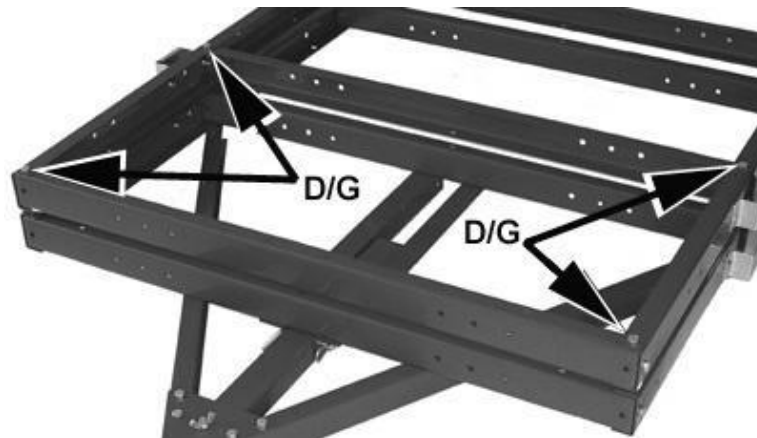

Figure 3-6
9. Install four M10 x 20 bolts (D) and M10 nylon lock nuts (G) as shown through the rear frame rails and cross members. See figure 3-6.